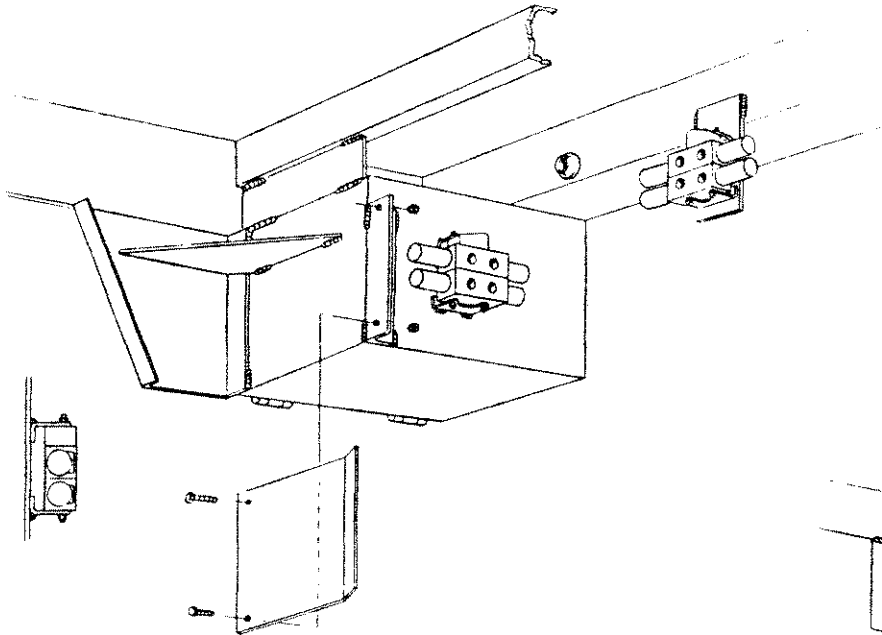

Fig. 1
FLATBED PREPARATION (see Page 4, Figures 1 and 2)
3. To install optional Tool Box, hold tool box into place, flush with front and side of flatbed. Weld tool box to Flatbed frame and support bracket as indicated in Figure 1. NOTE: Do not weld tool box Skirt on at this time.
A: If no tool box is installed, weld valve bracket onto underside of Flatbed per Figure 1.
B: If Tool Box is installed, weld valve bracket onto side of tool Box per Figure 1.
5. If valves are installed on Tool Box, fasten Valve Protector Shield to Tool Box. (see Figure 1, page 4)